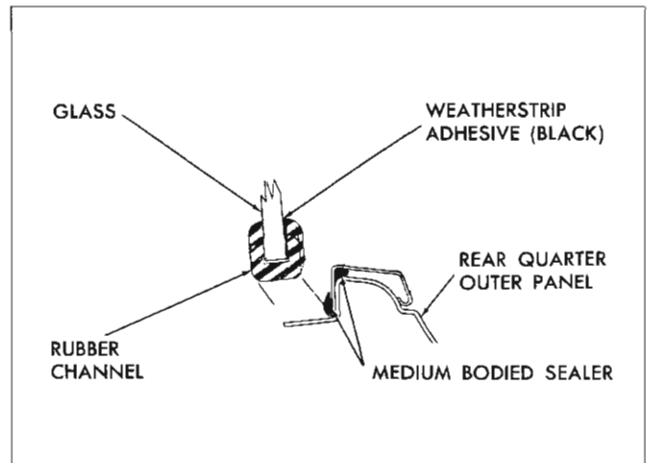

Fig. 4-17 Rear Quarter Stationary Window Sealing
4. Using a pliers oiler or any other suitable applicator, apply an approved weatherstrip adhesive (black) between glass and outer wall of rubber channel completely around window. Clean off excess sealer (see Fig. 4-17).